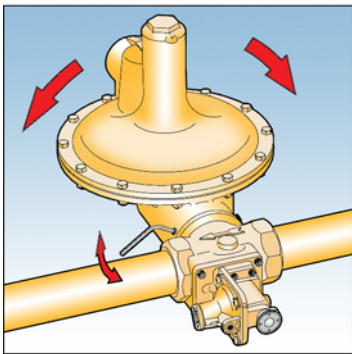

Fig. 2
8. In order to fit the regulator into confined spaces it may be necessary to rotate the diaphragm case. This is achieved by slacking off the three set screws, rotating the diaphragm case, and then re-tightening the set screws evenly. See Fig. 2.